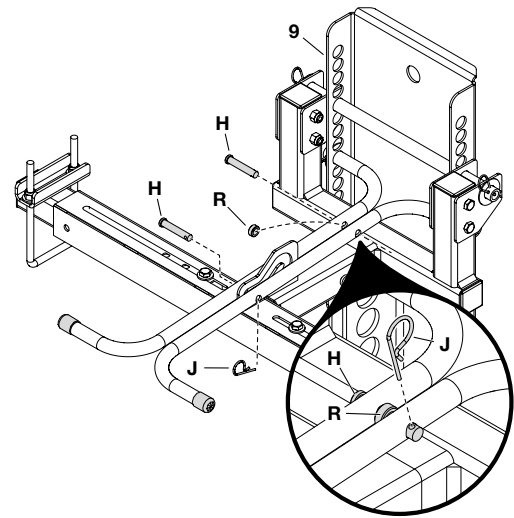

Figure 7
STEP 7: (SEE FIGURE 7)
- Attach the two push tubes (1) together using a clevis pin (H) and a spacer (R) between the push tubes at the end closest to the bulkhead (9).
- Insert a second clevis pin (H) through the opposite side of the push tubes at the end furthest from the bulkhead (9).
- Secure each clevis pin using a hair cotter pin (J).